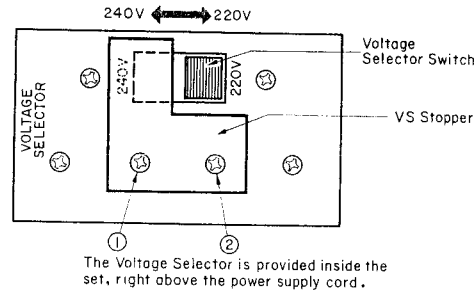

Fig. 1
Check whether the working AC power supply voltage is 220V, or 240V. In the case the working AC power supply voltage does not agree with the position of the VOLTAGE selector switch, the switch should be changed over in the manner described below. (Refer to Fig. 1.)
- (1) Unscrew the 2 screws ( ① and ② ) shown in Fig. 1, and dismount the VS stopper.
- (2) Switch over the VOLTAGE selector switch to the position that corresponds to the working power supply voltage.